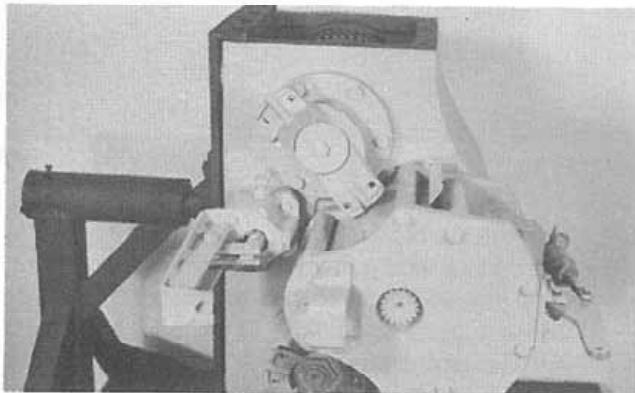

Figure 8:
10. If the unit is to be disassembled, mount it in a holding fixture which will safely support its weight and also allow it to swivel (Fig. 8).